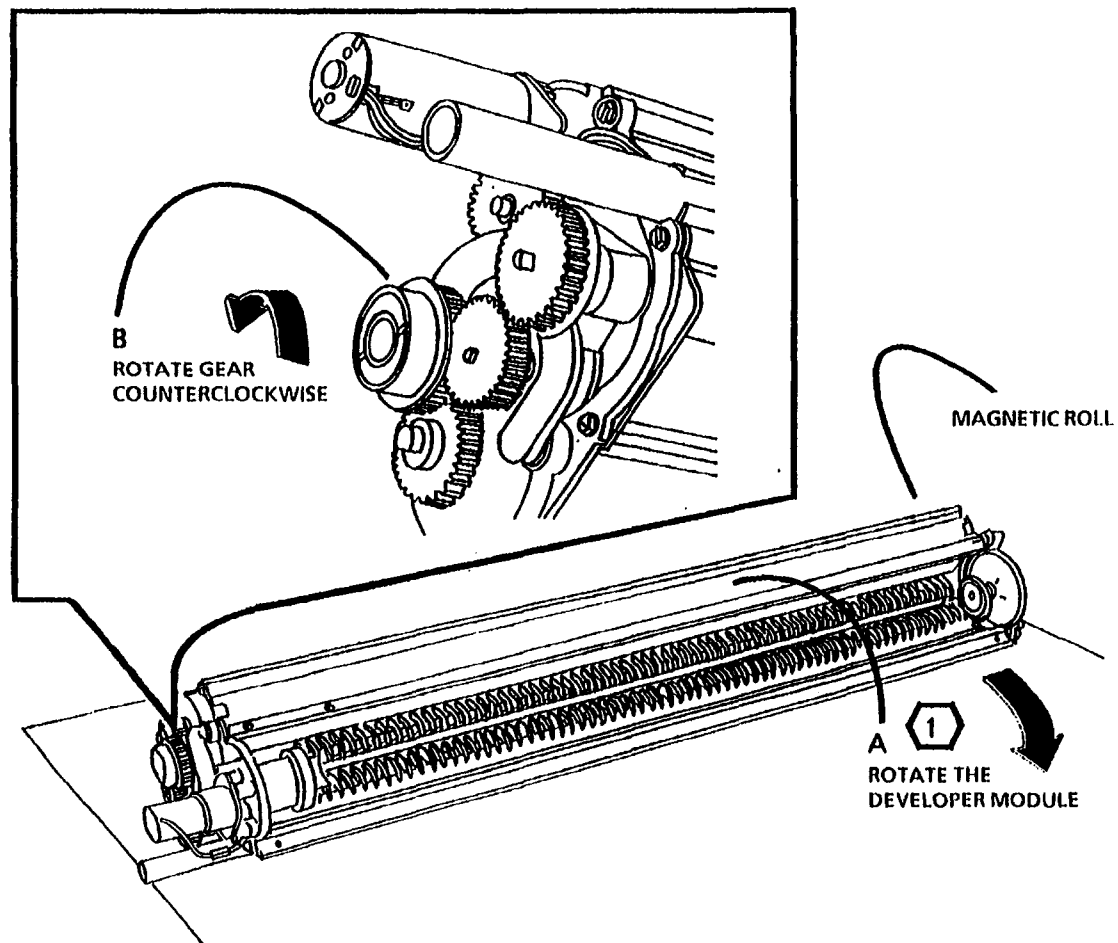

Figure 2. Dump the Developer Material
5. (Figure 2): Dump the Developer Material.